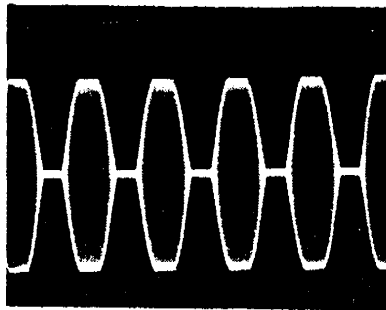

Figure 3-3. Squared-tone Modulation (95%)
- c. With the MODULATION SET switch depressed, rotate the OUTPUT LEVEL control to produce the maximum desired modulation. If the AM carrier is observed on an oscilloscope it should appear similar to Figure 3-3.